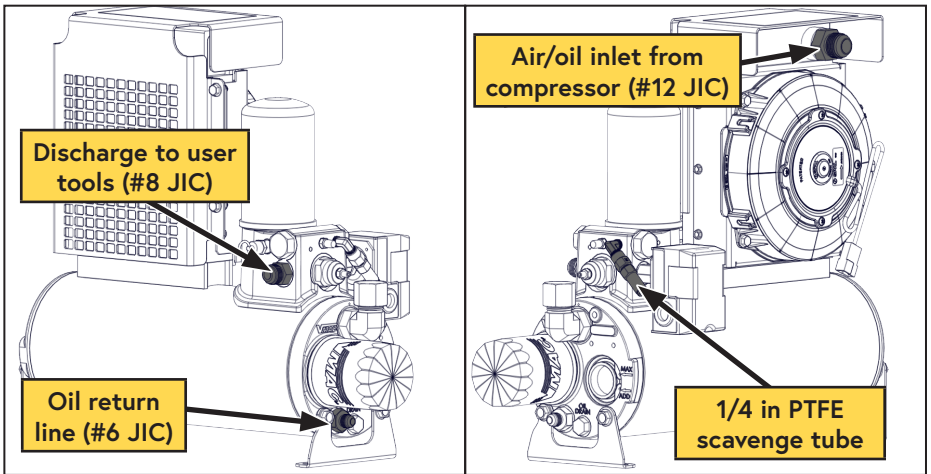

Figure 24 — WHASP Tank connections
- Connect the 90° fitting on the 3/4 in hose to the #12 JIC fitting (air/oil inlet) on the cooler above the fan (Figure 24).
- Connect the 90° fitting on the 3/8 in hose to the #6 JIC fitting (oil return fitting) beneath the oil filter on the tank (Figure 24).
- Connect the 1/4 in PTFE tube to the 1/4 in push-to-connect (oil scavange) fitting near the coalescing filter (Figure 24).